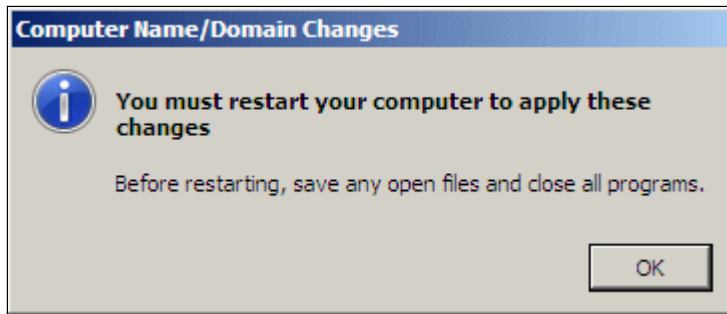

Figure 6-11 Server save file warning
5. To complete the domain setup, the server will need to restart. A warning message (Figure 6-11) displays, advising you to close all open and unsaved files. Click **OK**.